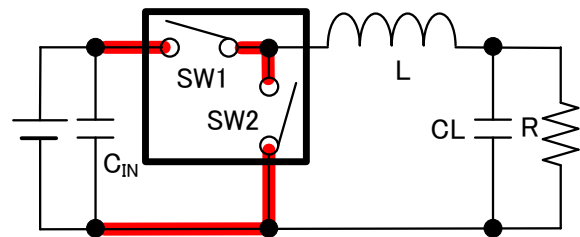
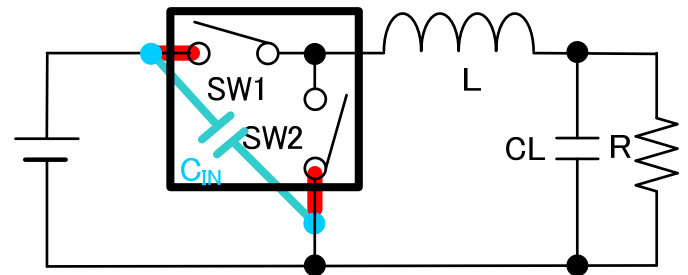

Fig. 7: Step-Down DC/DC Converter Noise
Fig. 8: C_{IN} Connection Location on Circuit Diagram
Current only flows in the red wiring shown in Fig. 7 when either Current (1) only or Current (2) only operates. When switch 1 (SW1) and switch 2 (SW2) are switched, the switching current is instantaneously interrupted, causing the L (inductance) component of the wiring to generate an electromotive force.
To reduce noise, the red wiring in Fig. 7 must be kept short. Apart from the wiring inside the IC, the input capacitance (C_{IN}) should be placed near the V_{IN} - GND pins of the DC/DC converter and connected with short wiring (refer to Fig. 8). Caution is required because GND in particular will disperse noise throughout the entire system.